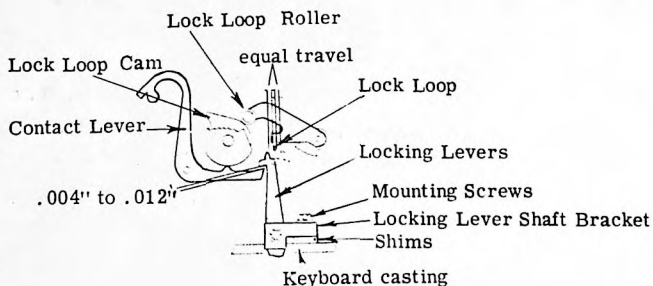

Figure 2
1.5 Locking Lever Shaft Bracket (Figure 2)
1.9 Lock Loop Roller (Figure 2)